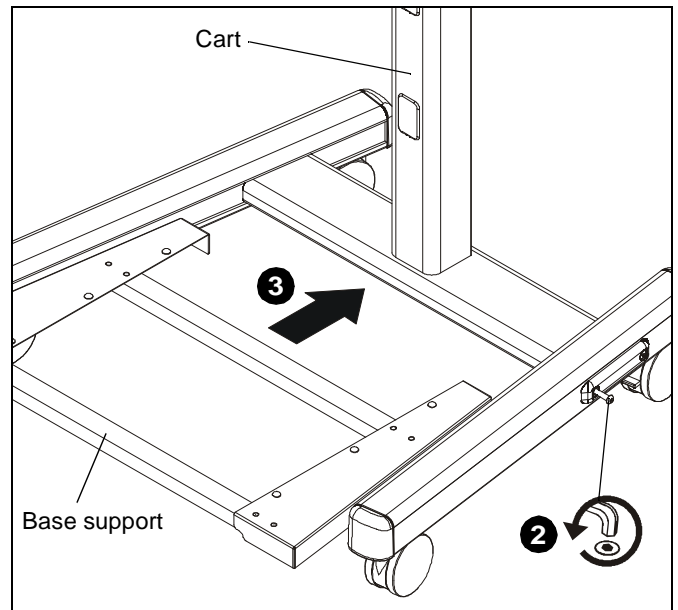

Figure 3
2. Slightly loosen (approximately three turns) the front button head cap screw on either side of the cart base. (See Figure 3)
3. Place base support inside legs of cart and push toward cart back. (See Figure 3)